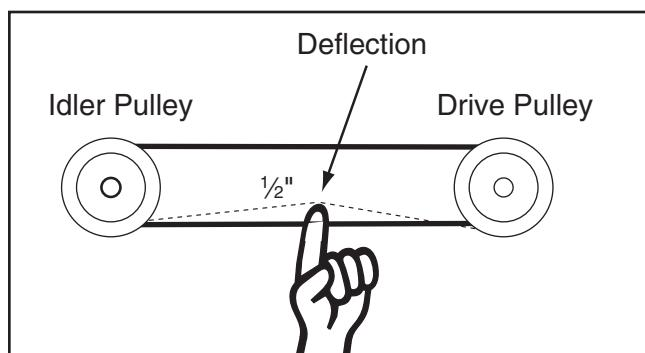

Figure 88. Checking sanding belt tension.
5. Push the belt in the center with your finger using moderate pressure. The deflection is correct when the belt deflects ½", as shown in Figure 88.